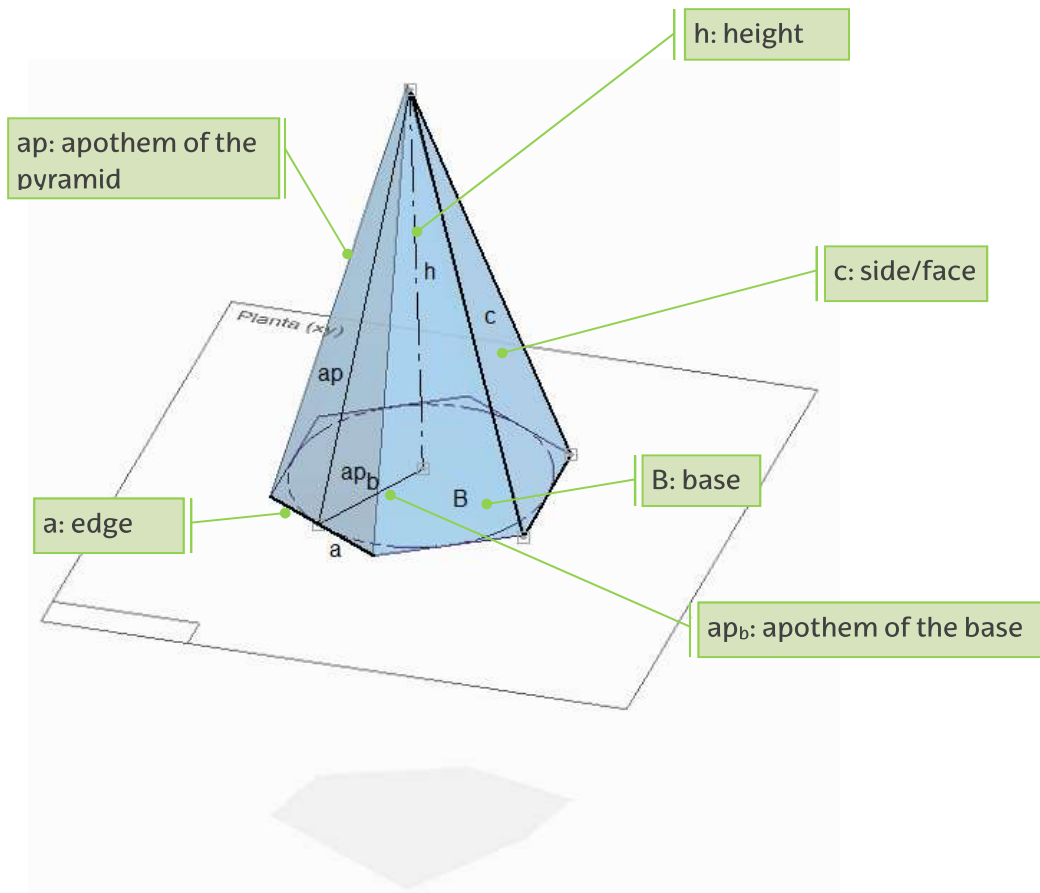

Figure 1.6. Parameters of a pyramid (Image made with Solid Edge).
- **Base (B):** the one determined by the polygon or directive curve. The pyramid and the cone have a base, while the prism and the cylinder are delimited by two equal bases.
- **Pyramid apothem (ap):** distance from the vertex to one side of the base. It only exists in regular pyramids. Since the lateral faces in this case are isosceles triangles, the apothem of the pyramid is also the height of the lateral faces (Figure 1.6).
- **Base apothem (apb):** distance from one side of the base to the center of the base. It only exists in regular pyramids (Figure 1.6).